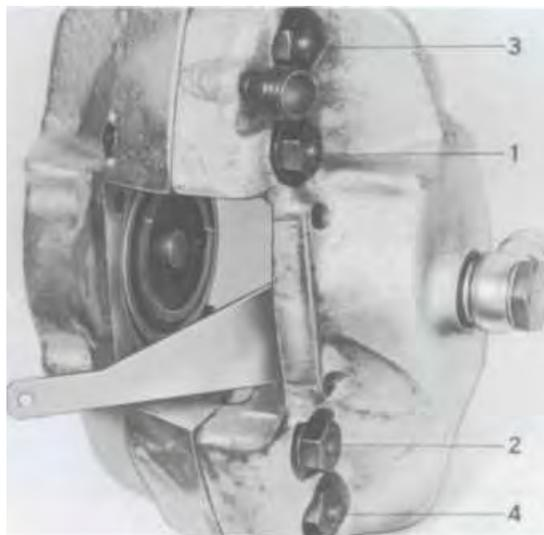

Fig. 52a
5. Torque bolts in two stages (1st stage 50 %. 2nd stage 100 % of the torque value) in sequence shown in Fig. 52a.